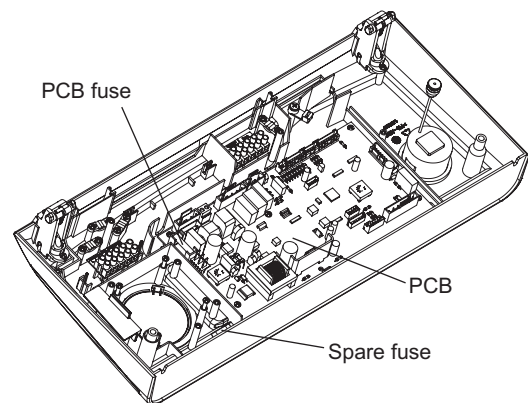

Fig. 7.2
7.10 FUSE - Fig. 7.2
Note: A spare fuse is supplied, as shown in Fig. 7.2.
7.11 PCB - Fig. 7.2